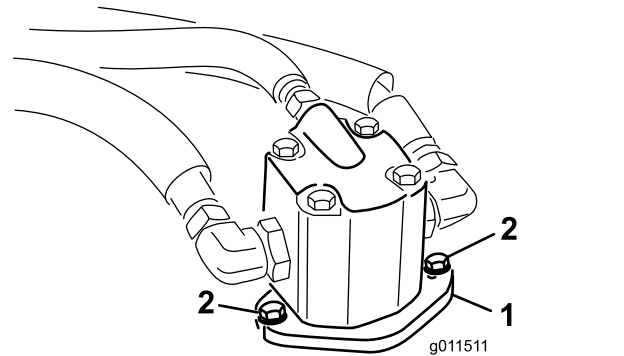

Figure 114
4. Remove the bolts securing the hydraulic motor to the cutting unit (Figure 114).